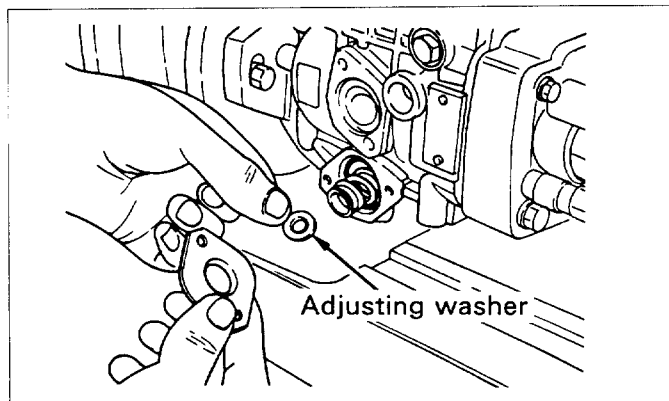

Fig.15-18 Adjustment of timer
(4) The timer piston ④① moves against the timer piston spring ④②, as the internal pressure increases as the pump speed increases. Spring tension is regulated by adjusting washers ④③ placed on both sides of the spring. Reducing the thickness of the washers will permit the piston travel to take place at a lower internal pressure, and thereby a lower pump speed. Increasing the adjusting washer ④③ thickness will have the opposite effect on the piston travel. (See Fig.15-18)